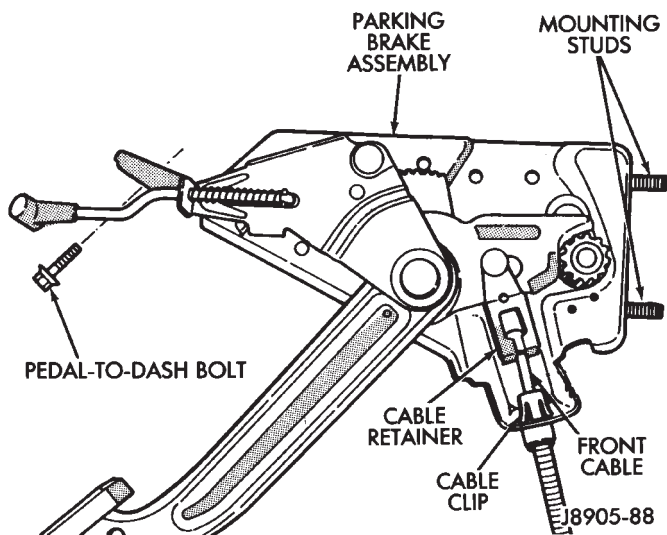

Fig. 12 Parking Brake Pedal Assembly (YJ)
- (3) Lower vehicle.
- (4) Remove dash-to-instrument panel brace rod, if equipped.
- (5) Disconnect warning light switch wire from pedal assembly.
- (6) On some YJ models, a ground wire may be attached to upper end of bolt that secures parking brake pedal to instrument panel. Wire is secured with a nut. Be sure to remove nut and detach ground wire before proceeding. If this wire is not removed beforehand, wire and harness could be damaged when pedal assembly bolt is removed. Ground wire and attaching nut are accessible from under instrument panel.
- (7) Remove bolt securing pedal assembly to instrument panel (Fig. 12).
- (8) In engine compartment, remove pedal mounting stud nuts.
- (9) Remove pedal assembly from panel.
- (10) Disengage front cable from retainer (Fig. 12).
- (11) Squeeze cable clip (Fig. 12) and pull cable out of pedal frame.
- (12) Remove pedal assembly.